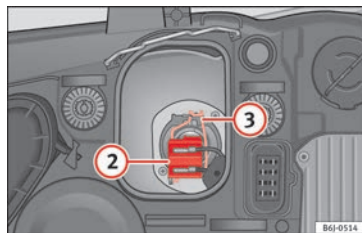

Fig. 100 Dipped beam headlights.
- Remove connector **» Fig. 100 2** from the bulb.
- Unclip the retainer spring»» Fig. 100 ③ pressing inwards to the right.